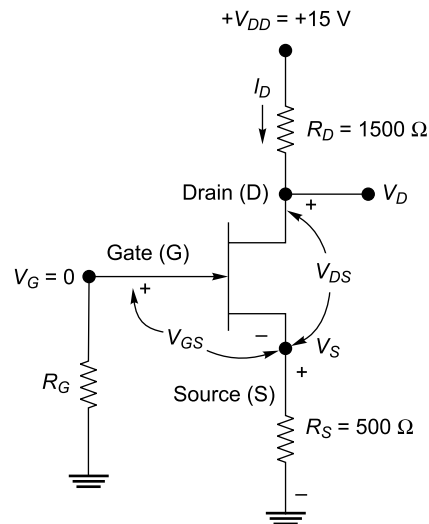

Fig. 1.86
40. Find the value of drain-to-source voltage (V_{DS}) and gate-to-source voltage (V_{GS}) for an n -channel JFET as shown in Fig. 1.86. Assume $I_D = 5$ mA.